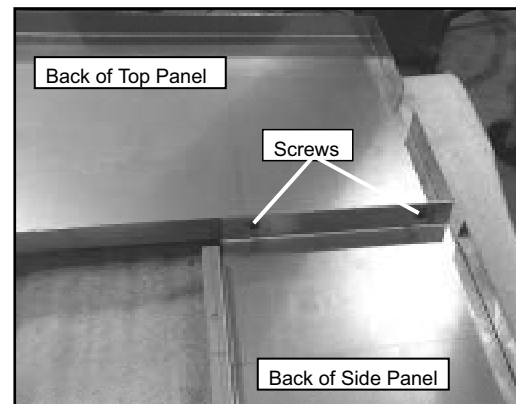

Figure 19.3
1. Secure the top panel to the panel sides with the screws provided. **Figure 19.3.**